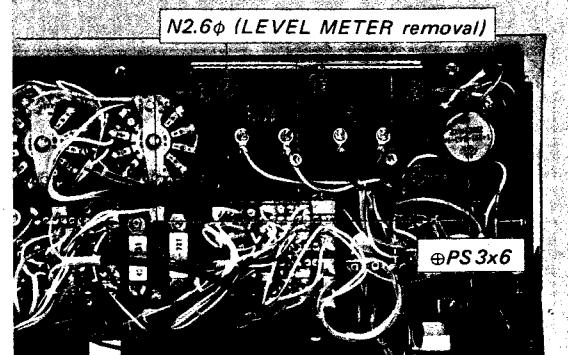

Fig. 2-6. Meter bracket removal
2. Remove the four screws (④PS 3x6) securing the meter bracket to the front subchassis as shown in Fig. 2-6. This frees the meter bracket.